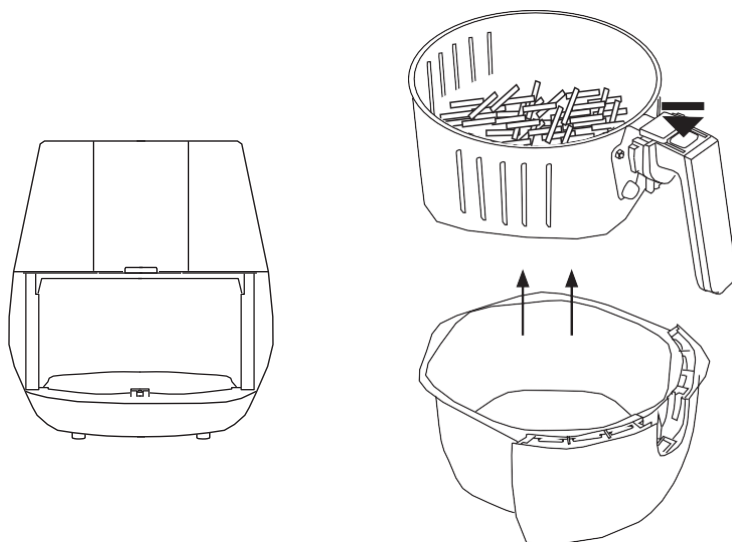

Fig. 1
- ◆ Separate the basket from the pan by using the basket release button and then tip the food out without any risk of burning yourself (Figure 1)